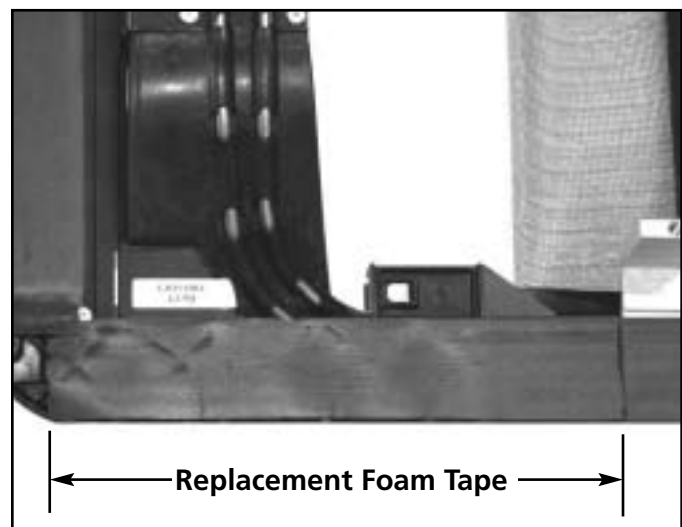

Figure S-85
18. Measure and cut replacement foam for the exposed area. See figure S-85.